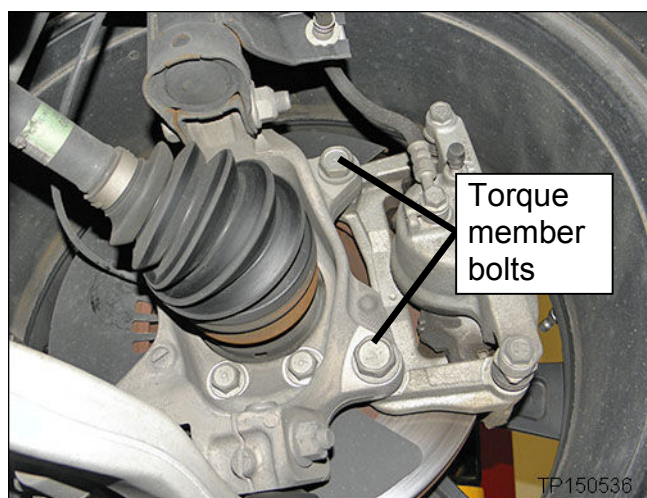

Figure 1
2. Locate and torque the two (2) torque member bolts on each front wheel hub assembly (see Figure 1).
- Figure 1 shows the Driver side; the passenger side is a mirror image.